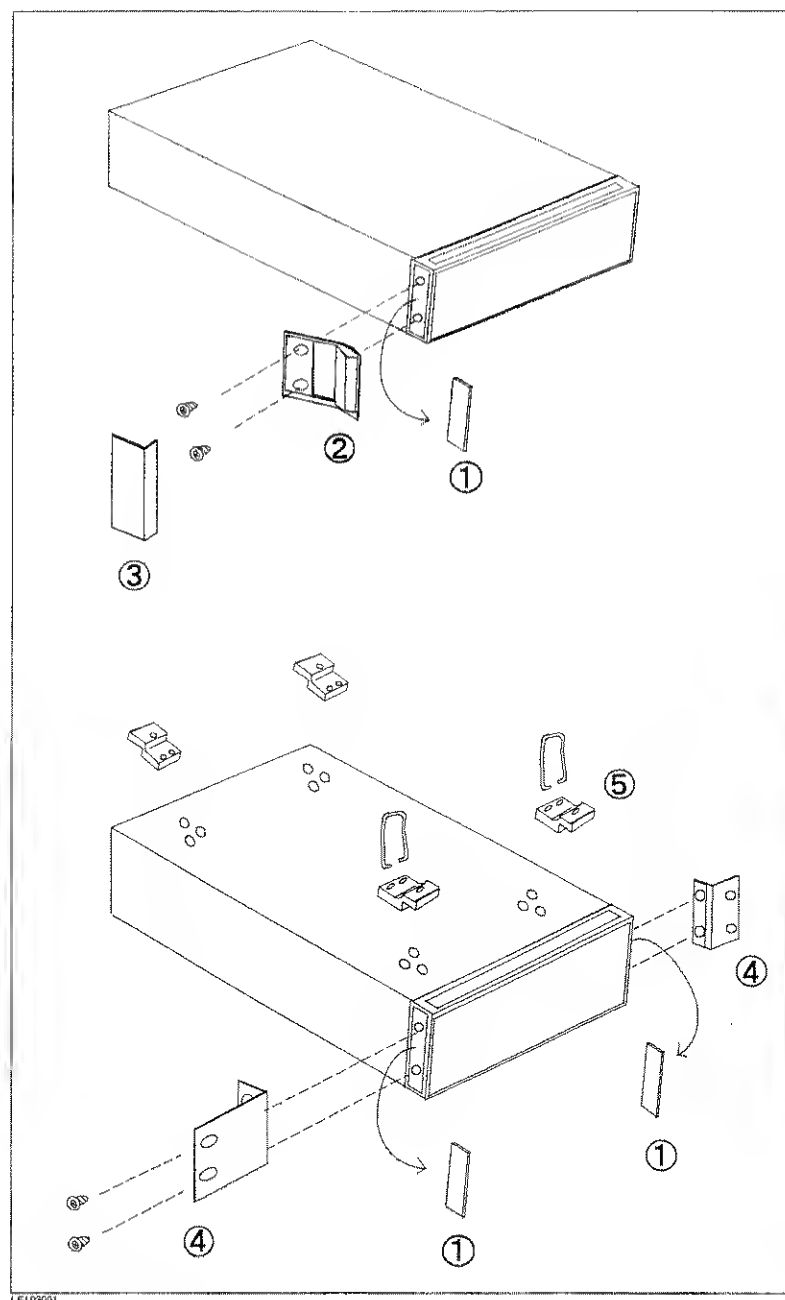

Figure 3-2. Rack Mount Kits Installation
The analyzer can be rack mounted and used as a component in a measurement system. Figure 3-2 shows how to rack mount the HP E4915A/E4916A.
1. Remove the adhesive-backed trim strips ① from the left and right front sides of the HP E4915A/E4916A. (Refer to Figure 3-2.)
2. Attach the front handles ② to the sides using the screws provided.
3. Attach the trim strips ③ to the handles.
2. Attach the rack mount flange ④ to the left and right front sides of the HP E4915A/E4916A using the screws provided.
3. Remove all four feet ⑤ (lift bar on the inner side of the foot, and slide the foot toward the bar.)